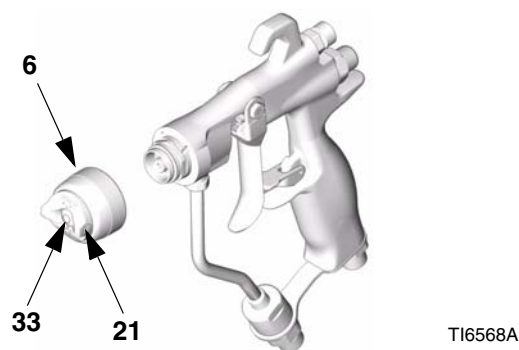

FIG. 36
2. Remove the air cap retaining ring (6), air cap (21), and spray tip (33). See FIG. 36.